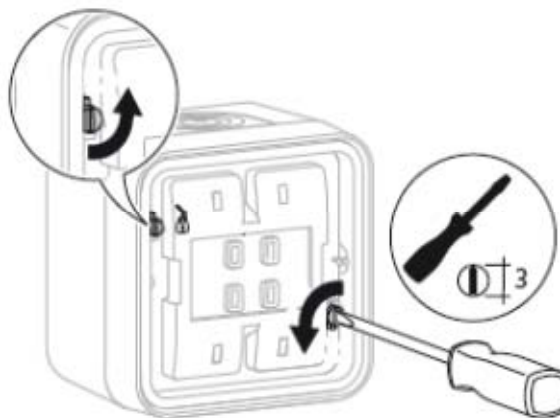

Figure 2
- Unlock quick-release bayonet connectors (8) by a $\frac{1}{4}$ turn to the left with the screwdriver (Figure 2).
- Remove frame with sealing from the housing bottom part (5).